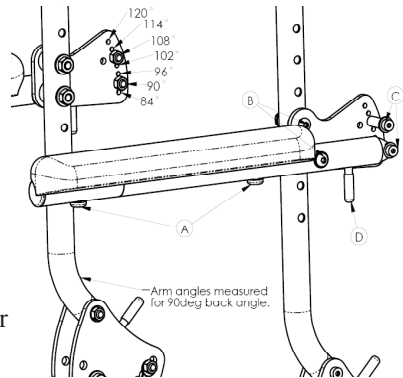

Figure 1
- a. Pull actuator D shown in Figure 1 towards the front of the wheelchair.